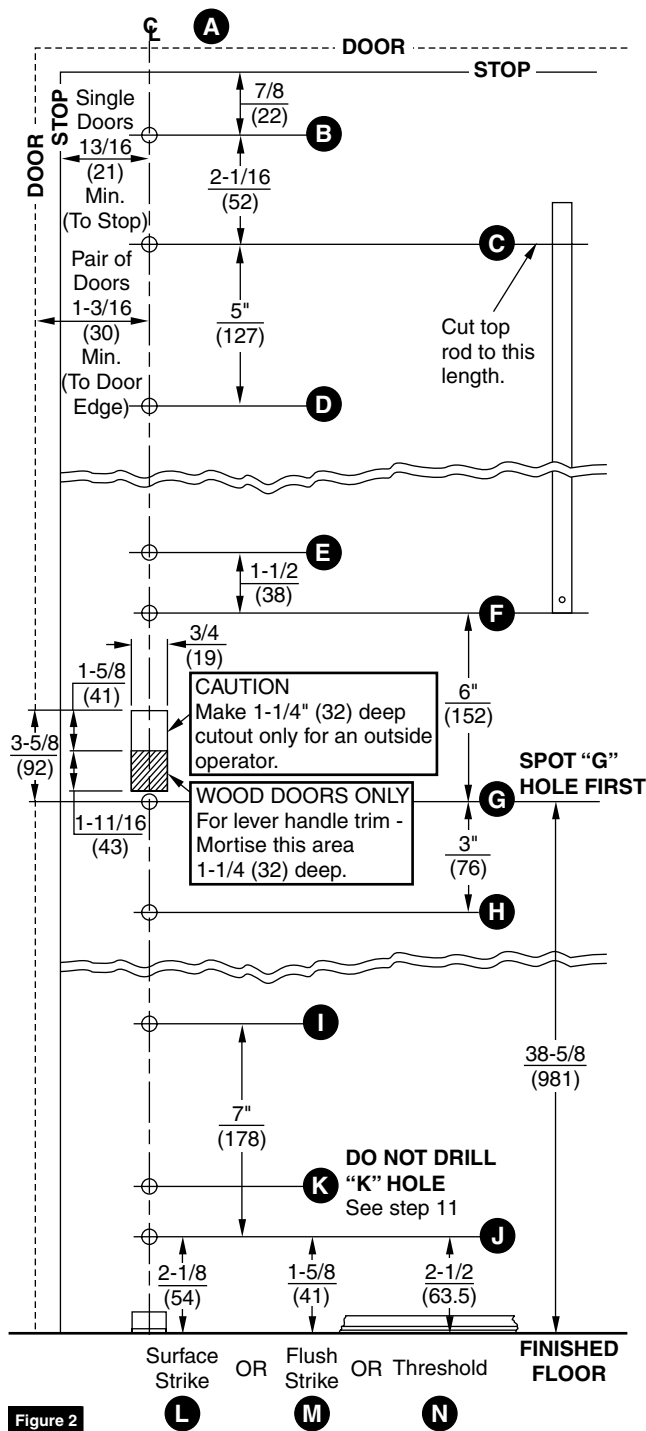

Figure 2
1. Spot and drill holes B to J for screws and sex nuts (as listed in screw guide - Figure 1 on page 2). (Figure 2) **SPOT G FIRST.**
1. Measure distance from bottom screw hole "C" of top latch case to top screw hole "F" in active case. (Figure 2 on page 3)
1. Install 4 top and bottom rod guides exactly on centerline. (D, E, H, I; Figure 2 on page 3)